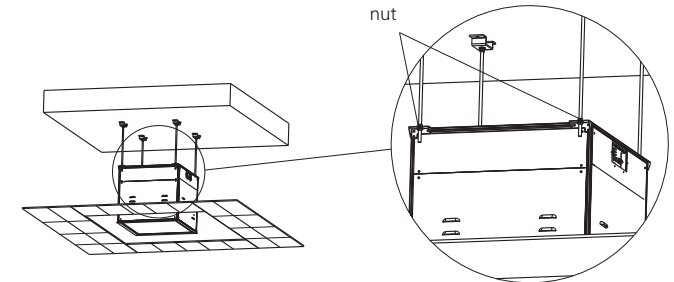

figure 7
5. Figure 7, check about the balance of projector lift